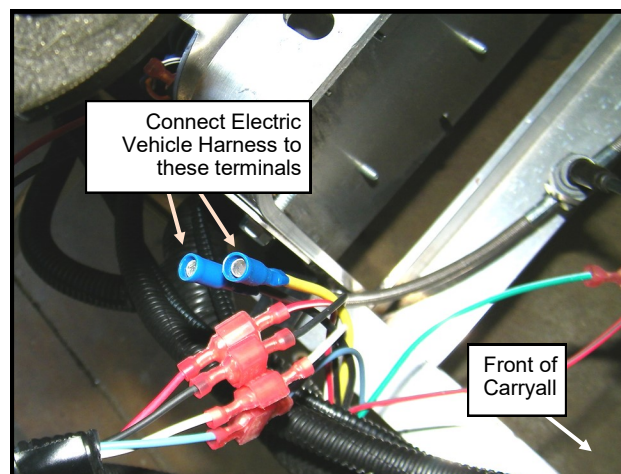

Fig. 9.2: Vehicle connection, electric vehicle shown
- 9.2 Connect the two male bullet terminals to the female bullets under the seat on the passenger's side, Red to Yellow and Black to Black (**Figure 9.2**).